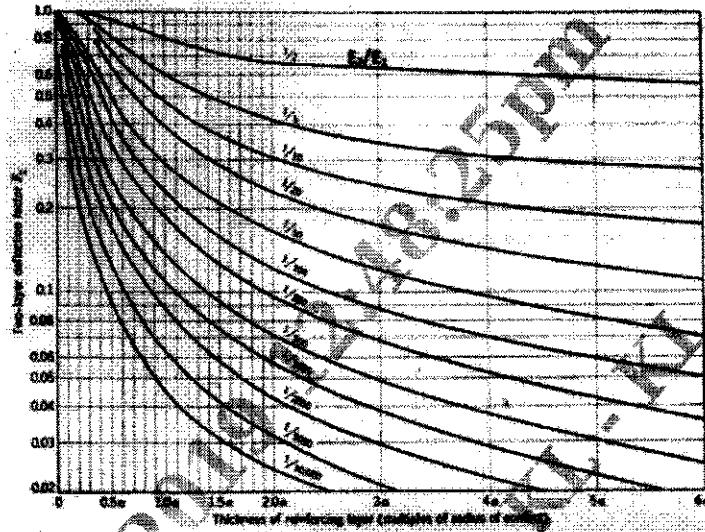

Fig.Q.2(b)
- ii) What should be the thickness of base course as to sustain wheel load of 50kN and contact pressure 0.6 N/mm2 so that maximum deflection does not exceed 5mm. Use Fig.Q.2(b). (08 Marks)